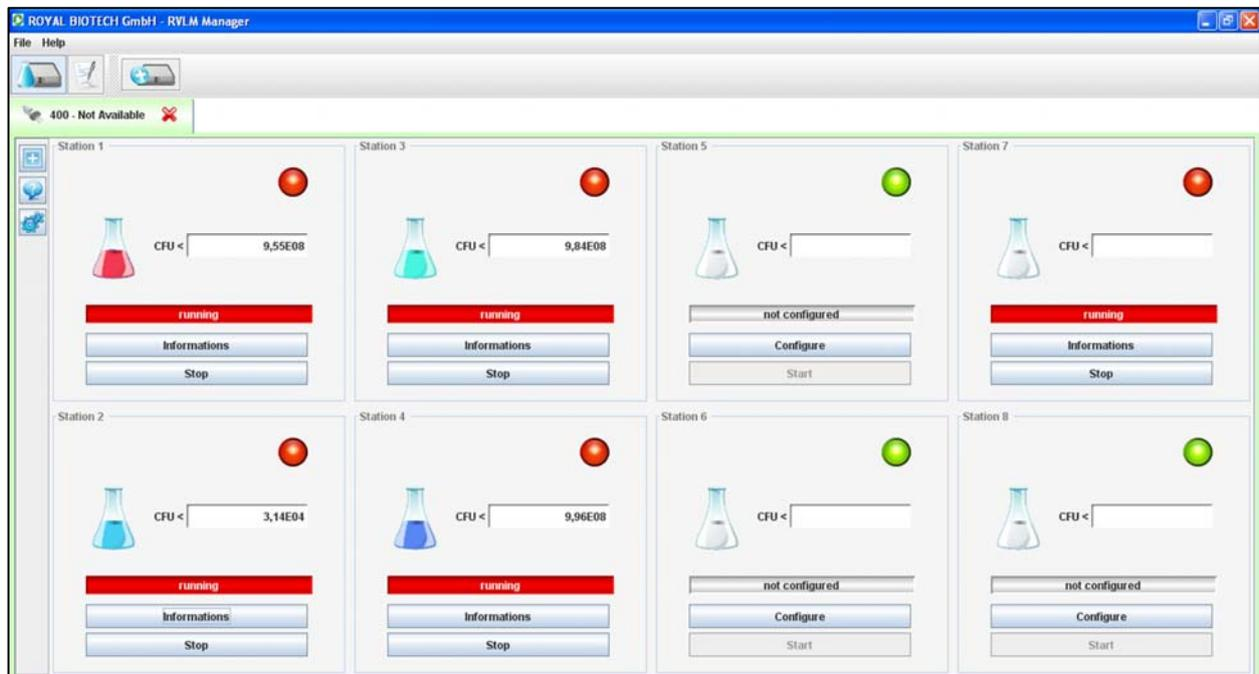

Fig. 15. RVLM – User interface, test start
- To perform simultaneously several tests repeat the configuration of the desired stations as described above. There is no order or priority between the different stations of the device (fig.15);